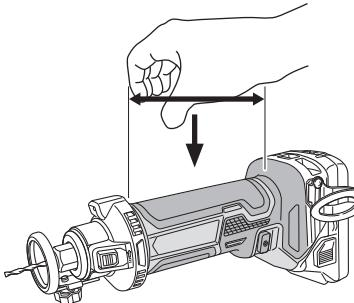

Fig. 1
10. Make sure to securely hold the tool during operation. Failure to do so can result in accidents or injuries. (Fig. 1)